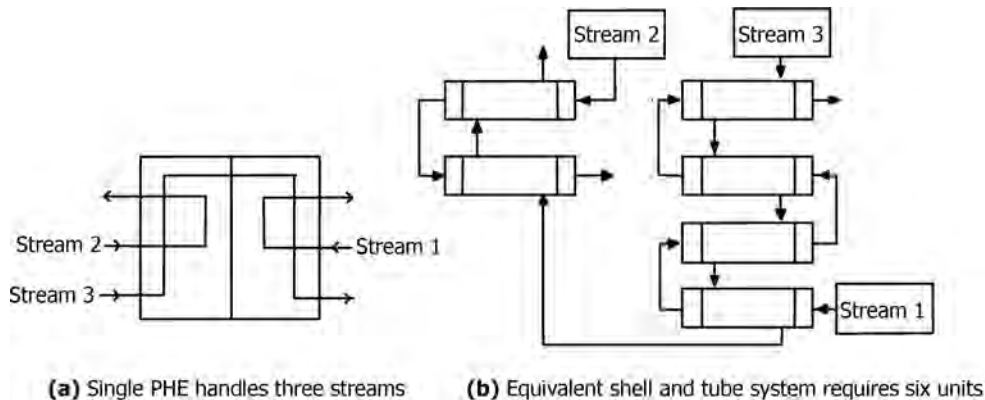

FIGURE 13.16 Single PHE handling three process streams.
- While a shell and tube exchanger can handle only two fluid streams, a single-plate heat exchanger can handle three or more process streams as illustrated in Figure 13.16 for a three-stream application, showing an equivalent shell and tube system for the same application.